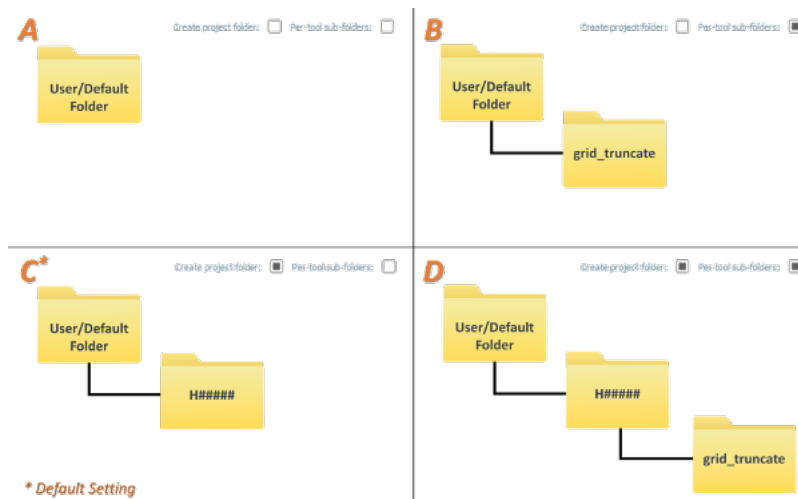

Fig. 2.38: The resulting folder structure based on the four available combinations of output flags.
- No flags set (see Fig. 2.38, pane A). The outputs are stored directly under the default or user-defined location.
- Only the **Per-tool sub-folders** flag set (see Fig. 2.38, pane B). The outputs are stored in a tool-specific sub-folder (in the default or user defined-location).
- Only the **Create project folder** flag set (see Fig. 2.38, pane C). The outputs are stored in a survey folder (in the default or user defined-location). *This is the default setting.*
- Both flags set (see Fig. 2.38, pane D). The outputs are stored in tool-specific sub-folders in a survey folder (in the default or user defined-location).